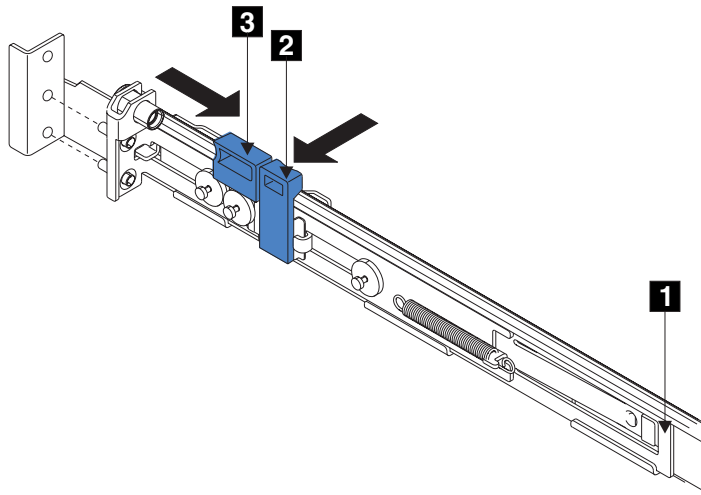

Figure 29. Opening the back latch-lock carrier assembly
7. Push the back rail bracket **1** (Figure 29 on page 28) toward the front of the rail until it stops. The rail is now at its shortest adjustment.
14. Push the back rail bracket **1** (see Figure 29 on page 28) toward the rear of the rack and align the locating pins with the rack-mounting flange.
15. Push the latch lock **2** (see Figure 29 on page 28) away from the rail to release the carrier. The latch-lock carrier slides toward the rear of the rack, and the locating pins project through the holes that are in the rear flange and in the rear rail bracket.